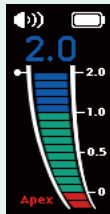

Fig. 6
- Set the preset value for the root canal measurement length and a jumping dot horizontal line will appear in the area of Fig. 6 indicating the preset distance from the apical foramen position.